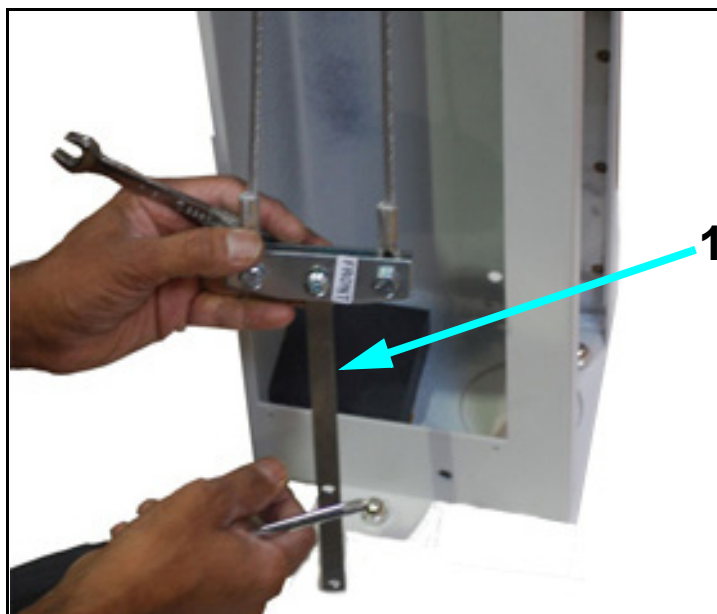

Figure 2-6. Counterweight bracket
- 6 Remove the Shipping Strap (1 in Figure 2-6). Make sure the “Front Sticker” is facing the front of the column.